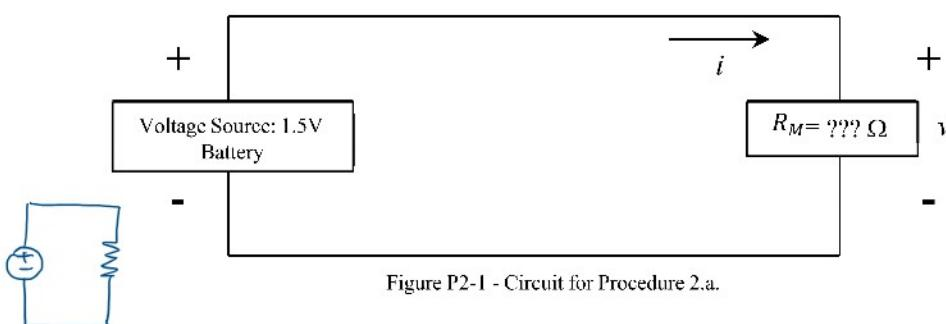

Figure P2-1 - Circuit for Procedure 2.a.
- a. **(2 points)** Draw the circuit schematic diagram for the circuit in Figure P2-1 using standard symbols for resistor and battery.
- b. **(1 points)** Construct the circuit in Figure P2-1 on your breadboard with R_M being the mystery resistor. See below for construction hints. Measure the voltage v across R_M . Record the value. $\checkmark = 1.605 V$